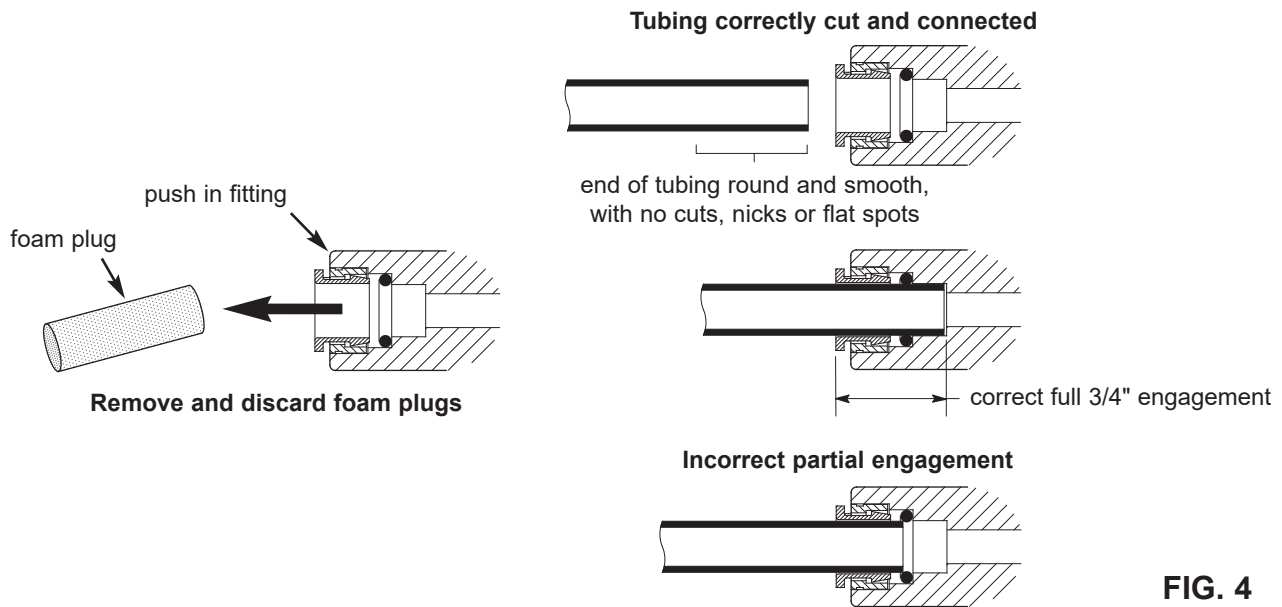

FIG. 4
**NOTE: Remove protective foam plugs before connecting tubes (See Fig. 4). Discard foam plugs.**